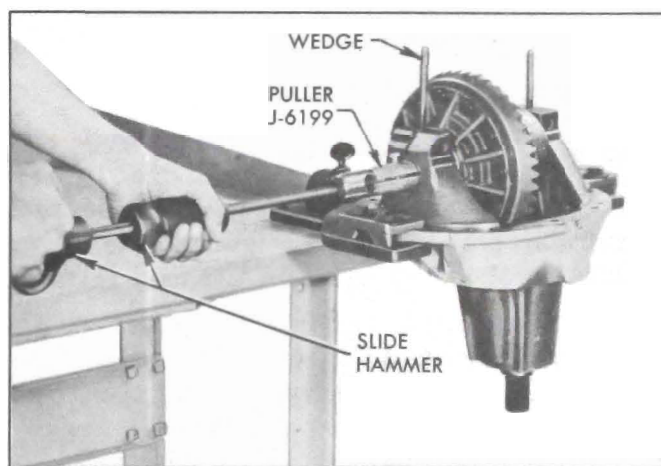

Figure 6-14—Removing Differential Bearing Supports
5. Pull differential bearing supports using Puller J-6199 and a slide hammer puller. See Figure 6-14.